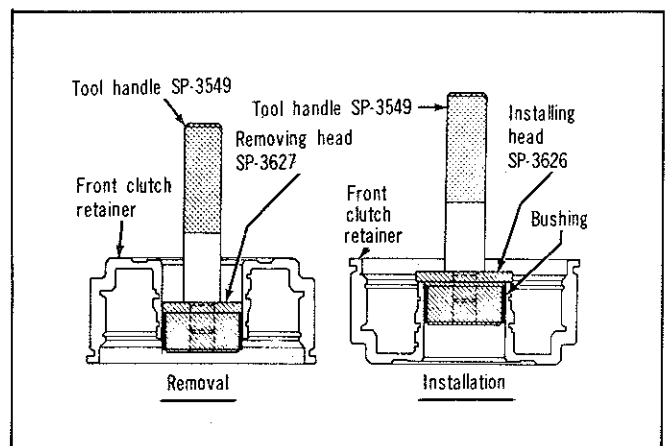

Fig. 50—Replacing front clutch retainer bushing
(1) Lay clutch retainer (open end down) on a clean smooth surface and place removing head Tool SP-3627 in the bushing (Fig. 50). Install handle Tool SP-3549 in removing head.
(2) Drive bushing straight down and out of clutch retainer bore. Be careful not to cock tool in the bore.
(3) Lay clutch retainer (open end up) on a clean smooth surface. Slide a new bushing on installing head Tool SP-3626, and start them in clutch retainer bore (Fig. 50).
(4) Install handle Tool SP-3549 in installing head. Drive bushing into clutch retainer until tool bottoms.
(5) Thoroughly clean clutch retainer before assembly and installation.